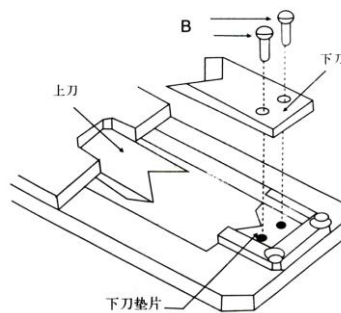

Fig3-4
- 2) According to Fig3-4, take off the blades.